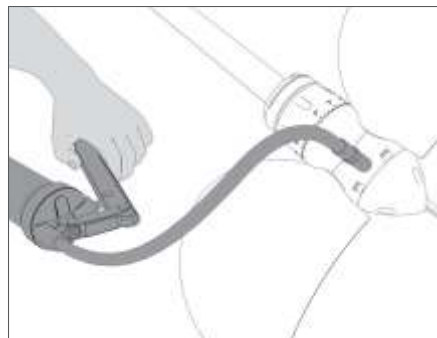

FIG. 45 Grease pumping
- Apply EWOL grease that can be ordered on the website www.ewoltech.com or www.ewol-propellers.com (from the USA) using a grease pump (**Fig. 45**), until it leaks from the blade housings or the MPS ring nut.